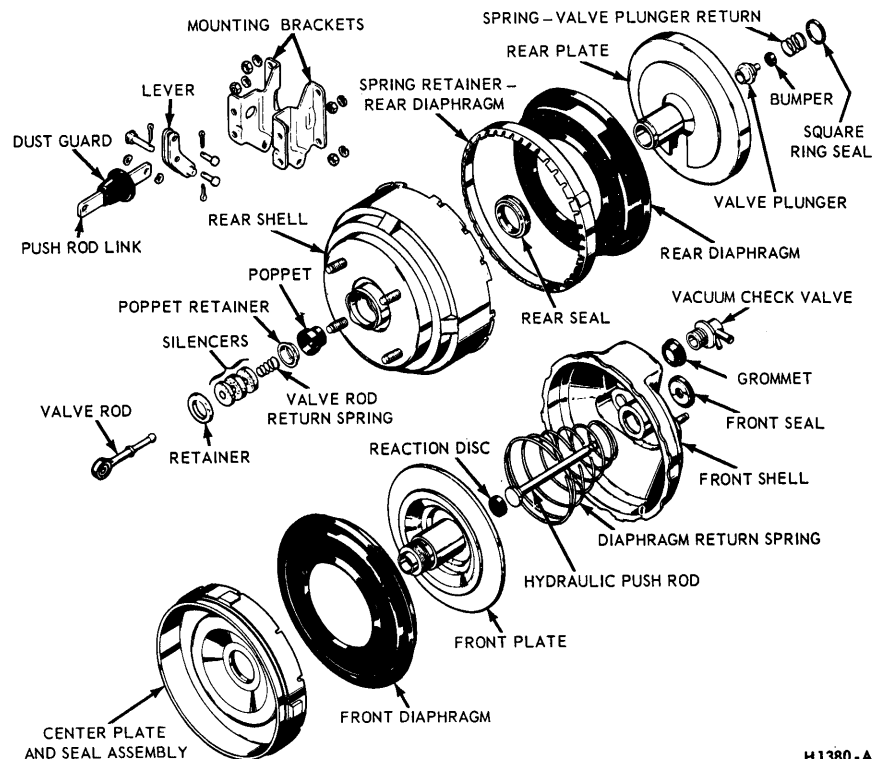

FIG. 28—Booster Disassembled
4. Apply alcohol to the eye of the valve rod and the small diameter of the dust guard, and then carefully remove the dust guard from the valve rod and the hub of the rear shell (Fig. 28).
3. Remove the valve rod from the vise. Pry the retainer off the end of the valve housing being careful not to chip the plastic housing (Fig. 28).
1. Wet the rear diaphragm spring retainer with alcohol and remove, using the fingers only. Remove the rear diaphragm from the rear plate (Fig. 28).
of wood, studs down, and press a new seal, plastic bearing face first, into the recess in the rear shell. Press the top outside flange of the seal approximately $\frac{5}{16}$ inch below the flat shell surface next to the seal (Fig. 28).
1. Apply Bendix type "O" lubricant liberally to the entire surface of the reaction disc and to the piston end of the hydraulic push rod (Fig. 28). Place the reaction disc on the piston end of the push rod. Apply Bendix type "O" lubricant sparingly on the rod of the push rod, keeping
1. Wet the poppet valve in alcohol, and assemble the poppet in the valve housing, small diameter end of poppet first (Fig. 28). Wet the poppet retainer in alcohol and assemble it in the housing with the flange out. Press in against the retainer to make certain that the shoulder on the retainer is positioned inside the poppet.
1. Dip the small diameter of the dust guard in alcohol, and assemble the dust guard over the eye of the valve rod (Fig. 28). Do not tear the guard. Press the guard against the valve housing and seat the large end of the guard over the scalloped flange of the rear shell. Before mounting the master cylinder, check the distance from the end of the hydraulic push rod to the hydraulic cylinder mounting face at the front end of the power unit as shown in Figure 2, Part 2-1. If the push rod length is not correct, follow the push rod adjustment procedure outlined in Part 2-1, Section 2. When the push rod length is correct, attach the master cylinder to the power section with lock washers and nuts. Torque the nuts to specification. Attach the mounting bracket to studs on the rear shell with lock washers and nuts and torque to specifications.